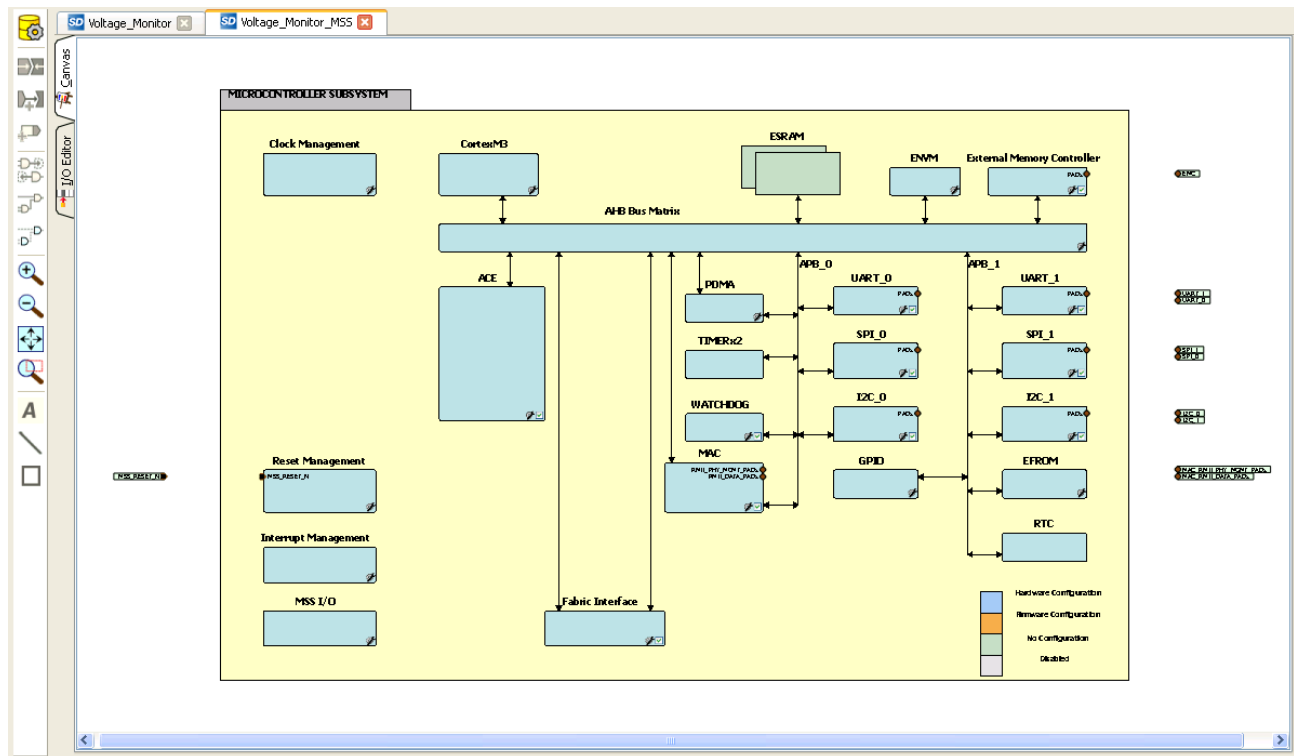

Figure 4 • MSS in the SmartDesign Canvas
1. Double-click on **Voltage\_Monitor\_MSS\_0** component to configure the MSS. The MSS is displayed in the SmartDesign Canvas in a new tab, as shown in Figure 4 . .